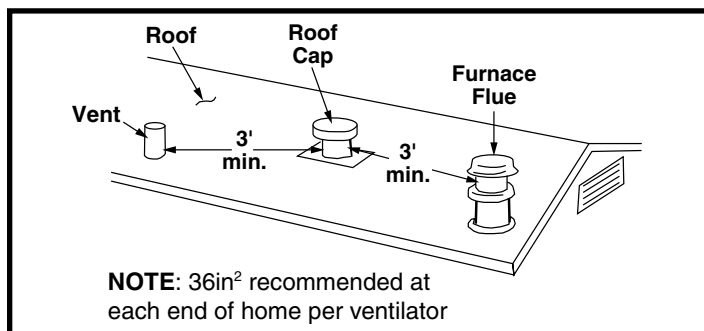

Figure 5. Roof Spacing
- 4. Determine location of roof opening. **NOTE:** The roof cap assembly should be located as closely as possible to the center of the home, allowing connection of the fresh air intake to the furnace using the 11-foot length of flexible duct provided. See Figure 5 (page 4).